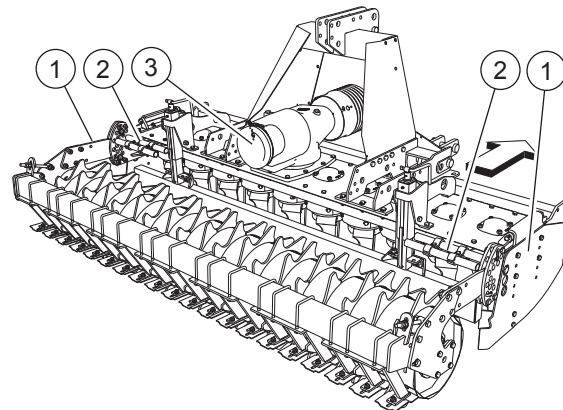

FIG. 22
- PTO guard tractor side (3, "Fig. 22").
- Protective side shield (1, "Fig. 22").
- Protective tubes against access to the blades area (2, "Fig. 22").